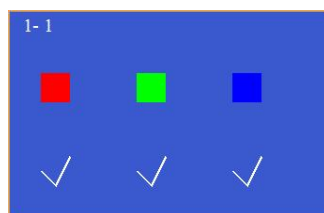

Fig.4-51 Shooting and analysis complete
- Once the analysis of the components is completed, a white check mark will appear below the corresponding color. When a partition has been captured and analyzed, its background color will change to dark blue (see Figure 4-51).